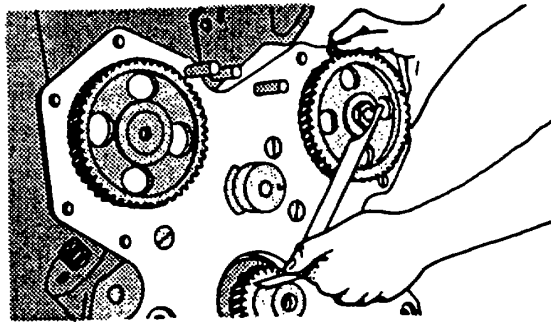

FIGURE 3-111. Checking Injection Pump Gear Timing
- g. If timing gear was removed install gear. Check injection pump gear timing with JD254 timing tool. Timing mark with "6" stamped beside it must align with center of injection pump gear, refer to FIGURE 3-111.